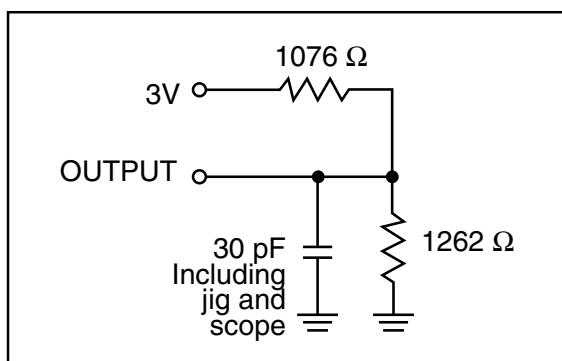

Figure 1.
Output Load	See Figures 1 and 2
- Test conditions assume signal transition times of 5 ns or less, timing reference levels of 1.5V, input pulse levels of 0 to 3V and output loading specified in Figure 1.
1. Test conditions assume signal transition times of 5 ns or less, timing reference levels of 1.5V, input pulse levels of 0 to 3V and output loading specified in Figure 1.